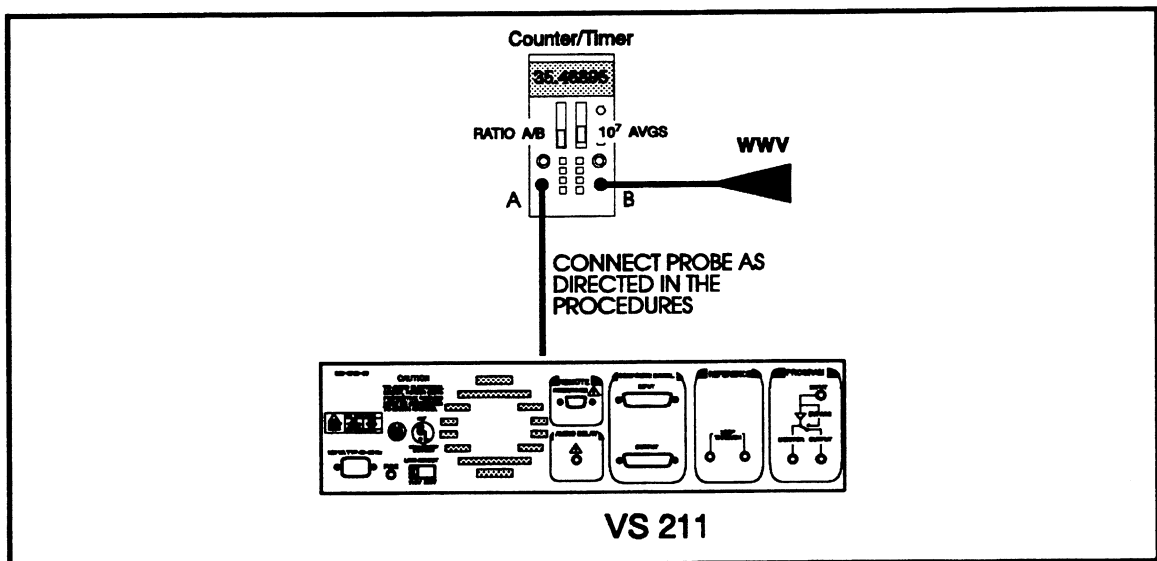

Fig. 4-2. Setup to adjust the ADC frequency.
- a. Connect the equipment as shown in Fig. 4-2.